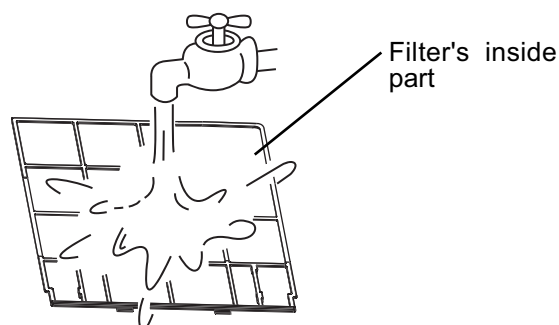

Fig.5
- If the cleaning is carried out with water, the filter's inside part must be oriented towards you (Fig. 5).